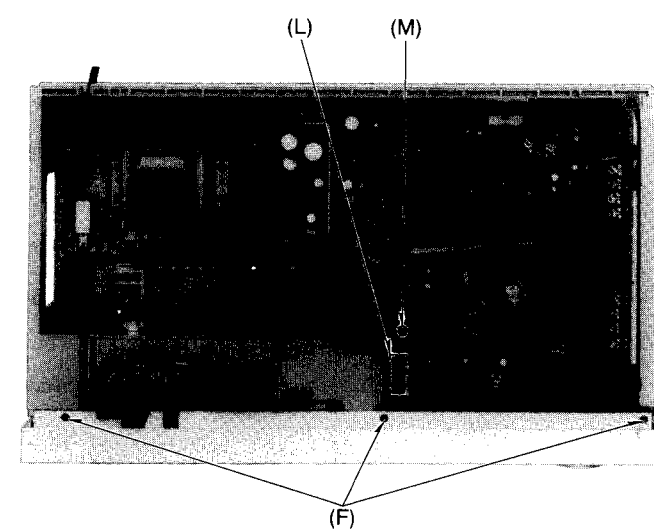
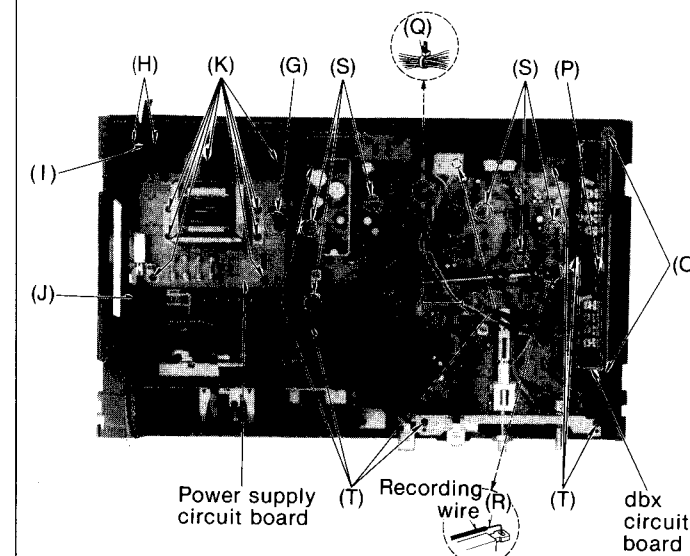
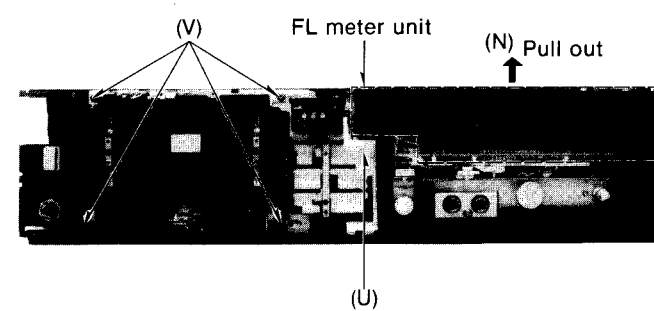
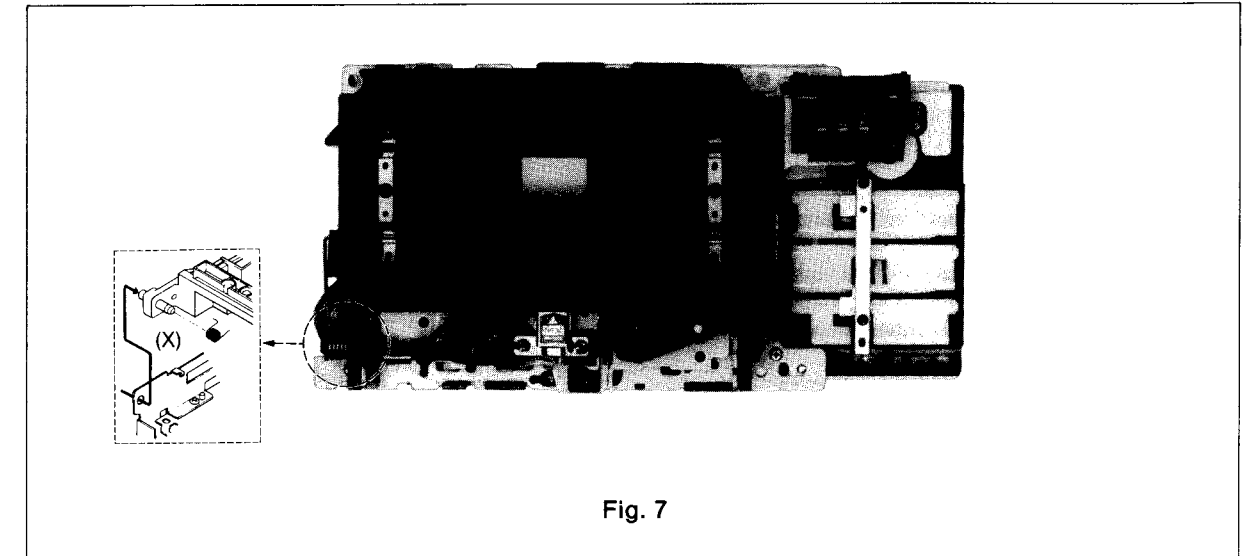

Fig. 4
Fig. 5
Fig. 6
Fig. 7
Equipment: • VTVM • Oscilloscope • Test tape (azimuth) ... QZZCFM	2. Playback the 8kHz signal from the test tape (QZZCFM). Adjust screw (B) in fig. 4 for maximum output L-CH and R-CH levels. When the output levels of L-CH and R-CH are not at maximum at the same time, readjust as follows. 3. Turn the screw shown in fig. 4 to find angles A and C (points where peak output levels for left and right channels are obtained). Then, locate the angle B between angles A and C, i.e., a point where L-CH and R-CH output levels come together at maximum. (Refer to figs. 4 and 5.) L-CH/R-CH phase adjustment 4. Make connections as shown in fig. 6. 5. Playback the 8kHz signal from the test tape (QZZCFM). Adjust screw (B) shown in fig. 3 so that pointers of the two VTVMs swing to maximum and a waveform as illustrated in fig. 6 is obtained on the oscilloscope.  Fig. 4  Fig. 5  Fig. 6  Fig. 7
A Check for expansion Condition: • Stop mode • Input level controls ... MAX • Output level control ... MAX • Noise reduction selector ... disc/dbx tape Equipment: • VTVM • AF oscillator • ATT • Oscilloscope • Resistor (600Ω)	A Check for expansion 1. Make the connections as shown in fig. 4 and apply 1 kHz - 27 dB signal from LINE IN, and set the noise reduction selector to disc position. 2. Adjust ATT, increase input signal level by 10 dB, and make sure that the reading for VTVM increases by $20\text{ dB} \pm 1\text{ dB}$. 3. Adjust ATT, decrease the input signal level, and make sure that the reading for VTVM decreases by $20\text{ dB} \pm 1\text{ dB}$.  Fig. 4
B Check for standard level of dbx Condition: • Stop/record mode • Input level controls ... MAX • Noise reduction selector ... disc/dbx tape Equipment: • VTVM • AF oscillator • ATT • Oscilloscope • Resistor (600Ω)	B-1 Check for standard level of dbx in dbx Encode mode 1. Make the connections as shown in fig. 5 and apply 1 kHz - 27 dB signal from LINE IN, and set the noise reduction selector to dbx tape position. 2. Set the unit to record mode, adjust ATT so that the signal level at TP201 (L-CH) and TP202 (R-CH) is 300 mV. 3. Make sure that the signal level at TP203 (L-CH) and TP204 (R-CH) is $300\text{ mV} \pm 0.5\text{ dB}$.  Fig. 5 B-2 Check for standard level of dbx in dbx Decode mode 1. Make the connections as shown in fig. 5 and apply 1 kHz - 27 dB signal from LINE IN, and check as follows: 2. Set the noise reduction selector to disc position and adjust ATT so that the signal level at TP201 (L-CH) and TP202 (R-CH) becomes 300 mV. 3. Make sure that the signal level at TP203 (L-CH) and TP204 (R-CH) is $300\text{ mV} \pm 0.5\text{ dB}$.